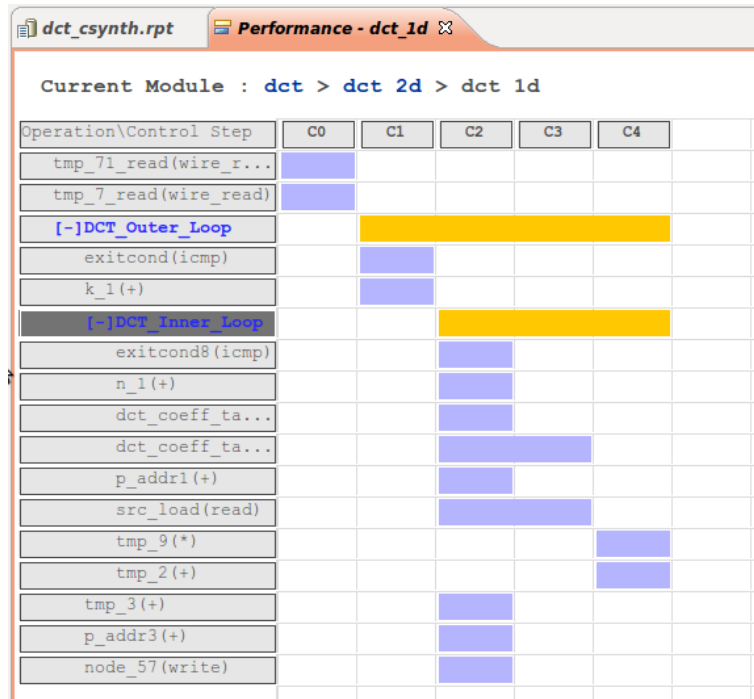

Figure 3.6.: Nested loops of dct_1d.
- Expanding *dct_1d*, we see there are nested loops of DCT_Outer_Loop and DCT_Inner_Loop (Figure 3.6)